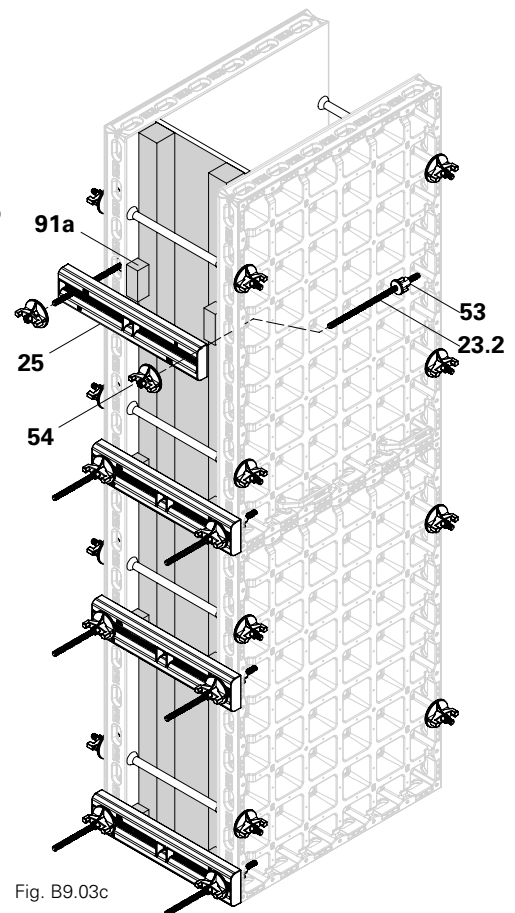

Fig. B9.03c
6. Fill space between the square timber and DUO 62 compensation waler (**25**) with wooden spacers (**91a**). (Fig. B9.03c)